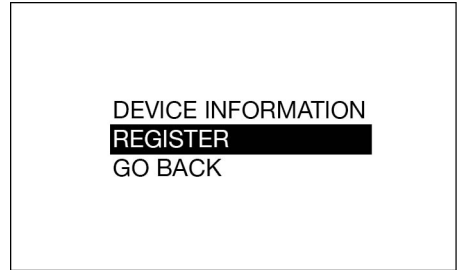

FIG. 12
3. From the SET-UP menu, use the UP and DOWN arrows on the navigation pad to select REGISTER (FIG. 12).